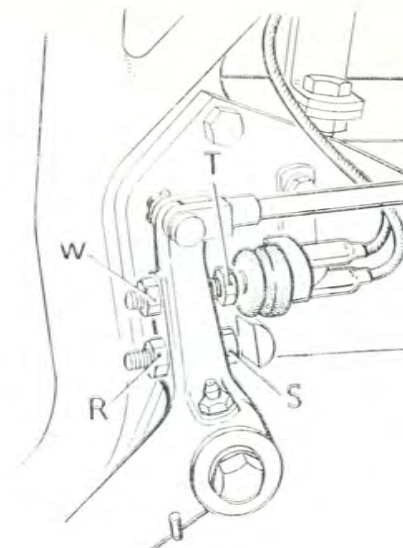

FIG. 7.
Rear Brake Pedal (Fig. 7)
This is actuated by the brake pedal and is operated by the adjustable stop (T) Fig. 7, locked by the nut (W). Whenever the brake pedal is adjusted, check that the switch still functions and if necessary, reset the position of the stop. With the switch plunger fully depressed and the brake pedal against its stop, there should be $\frac{1}{8}$ in. gap between the stop (T) and the plunger.